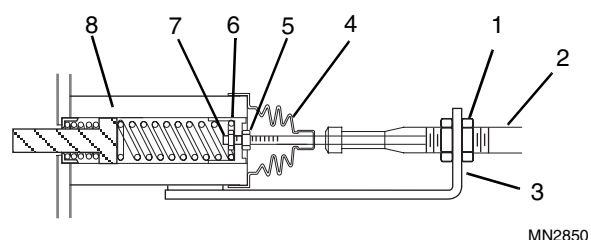

Figure 7-78 Park Lock Disassembly
7. Loosen the outer bulkhead nut (Fig. 7-78, 1) on the cable (2). Pull the cable from its mount (3), sliding the piston sub-assembly [consisting of boot (4), hex nut (5), piston (6), and hex nut (7)] intact from the bore (8).